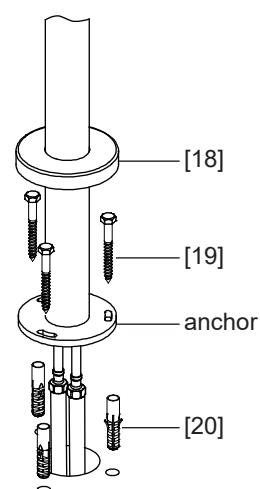

Fig 4.3
- b. Slide the **Escutcheon [18]** to the floor to cover the anchor.(Fig 4.3)